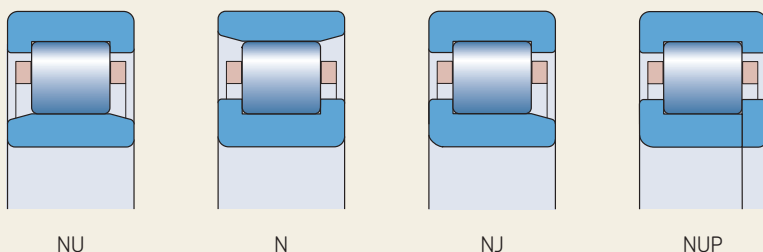

Fig. 7
- can be used together with an appropriate angle ring to stabilize the bearing in the axial direction (fig. 7, *Appropriate angle rings*)
- are used with NU design bearings to locate the shaft axially in one direction (fig. 7)